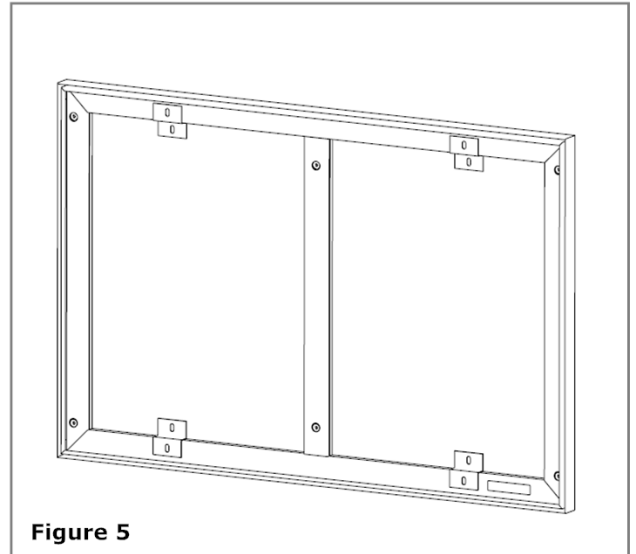

Figure 5
1. Identify the desired location of the frame on the wall and mark the positions of the mounting screws, using supplied mounting z-clips to reference fastener location. Mounting z-clips should be located on the top and bottom near each corner and any vertical frame members. **See Figure 5.**
5. To lock the frame against the wall, install bottom mounting z-clips. Clips should be located on the inside of the frame. **See Figure 5.**